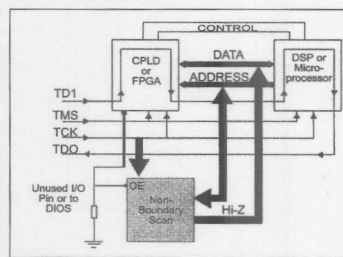

FIG. 3: Unused I/O pin controls non-boundary scan devices.
In many designs, FPGAs and CPLDs will have uncommitted I/O pins you can use to produce signals that configure logic circuits or enable test functions. Consider a circuit in which an FPGA and a microprocessor share a data bus with a noncompliant transceiver (Figure 3). If during testing the transceiver's output-enable (OE) signal floats (see red arrow), the transceiver's bus signals could conflict with those produced by the scan chain to test the FPGA-to-processor connections.